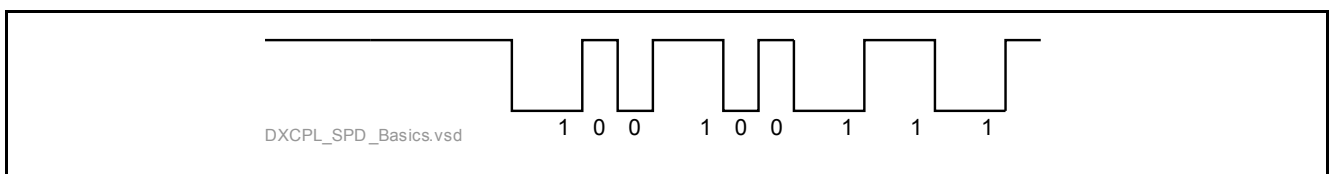

Figure 1-2 SPD Basic Protocol
- A value of '1' will be twice the distance (**Figure 1-2**).